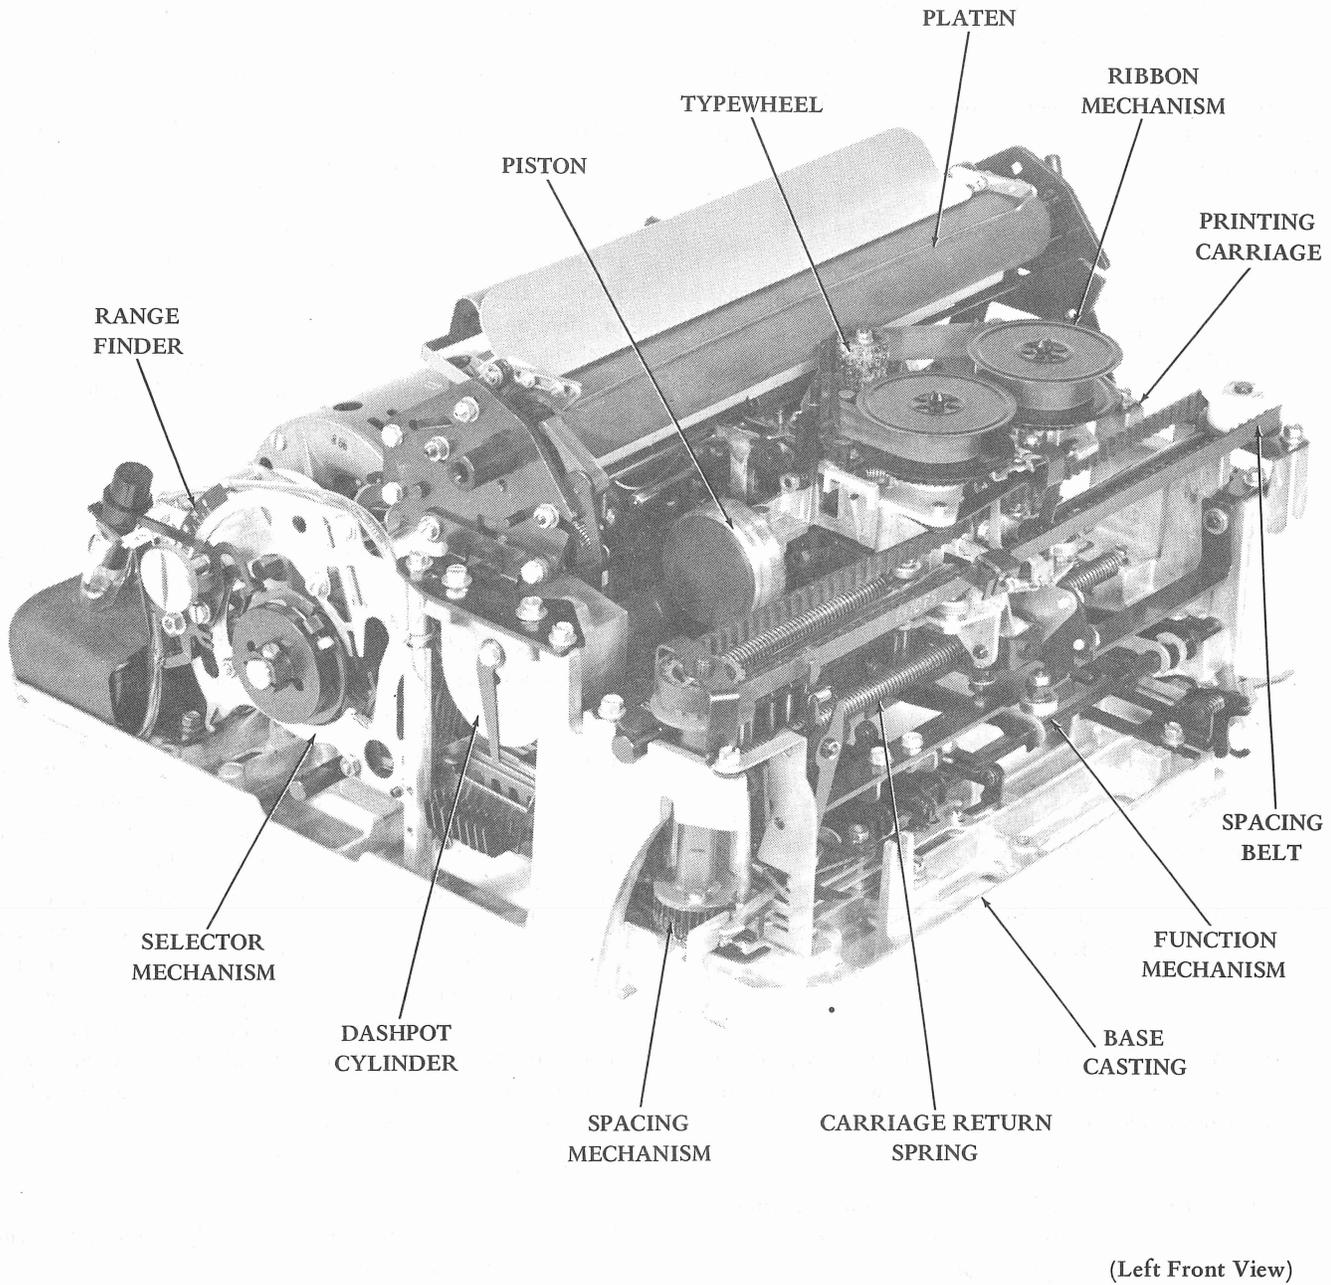

Figure 6 - Typing Unit (Friction Feed)
3.05 The typing unit (Figures 6 and 7) is the set receiving print-out component. The typing unit receives start-stop signals from the call control unit and converts them into mechanical motions which print the messages, perform functions, and, in the case of the ASR, perforate tape.